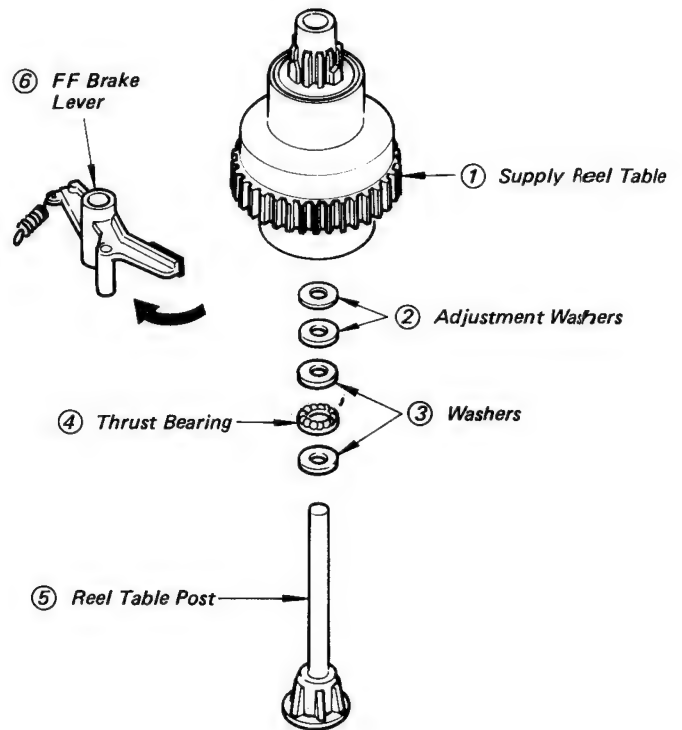

Fig. 5-38 Supply Reel Table Removal
#### 10-2. Adjusting (Refer to Figs. 5-38, 43)
6. Turn and hold the FF brake lever ⑥ in the arrow direction (↻) (see Fig. 5-38).
7. Lift the supply reel table ① straight up for removal.
- CAUTION:** 1. In lifting the supply reel table ①, special care must be exercised not to bend nor break the band brake.
8. Take out any of the adjustment washers ②, washers ③, and thrust bearing ④, if stuck by oil, from the bearing of the supply reel table ①.
9. Wipe the reel table post ⑤ to clean using isopropyl alcohol.
10. Wait for the reel table post ⑤ to dry, and then apply a few drops of oil to it.